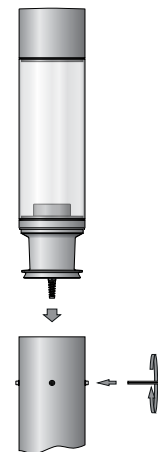

Figure 2:
6. Install luminaire head ensuring the directional label is pointing in the specified direction, and secure into place by tightening set screws. (Figure 2)